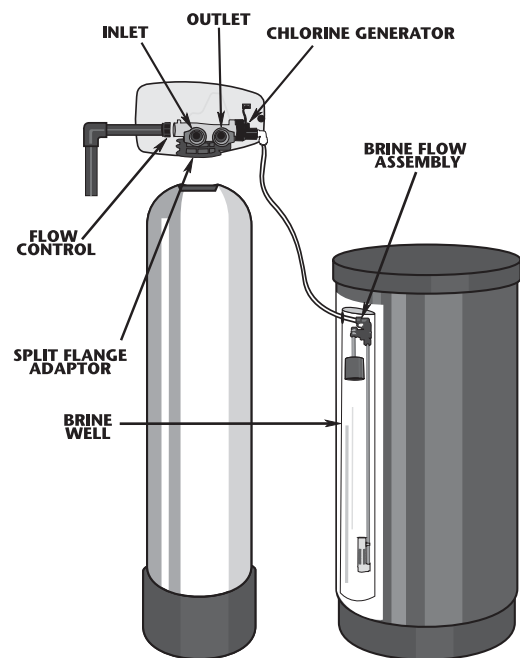

FIGURE 4
- In the brine tank there is a piece of flexible brine tube. This tube runs from the brine flow control assembly (in the brine tank, **Fig. 4**) to the chlorine generator, located on the control head. Remove chlorine generator from valve and insert tubing into generator, fitting firmly; pull on tubing making sure it is secure. Do not attach other end to the brine tank, as this will be covered in start-up procedures. Reattach generator to valve, making sure clip is secure.
- The drain line must be connected from the drain line flow control (**Fig. 4**), to a floor drain, sump pump, etc. This pipe is not provided with your water conditioner and is the responsibility of the installer. Check your local plumbing code for approved piping. In any case, it should be of adequate inside diameter to allow for proper drainage. Secure pipe to flow control and run to drain.